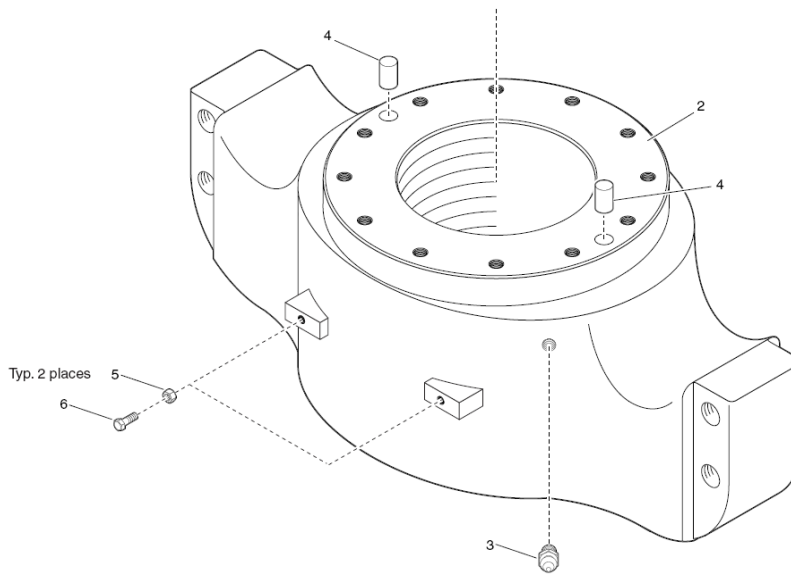

Figure 1 – Bolts added to load collar for stabilization
In order to provide better stabilization of the EMI 400 load collar (PN 13392), two bolts have been added to the load collar to provide a bearing point against the upper grabber leg. Figure 1 below shows the location of these bolts. The modification includes the addition of two 1/2" UNC x 1-1/2" deep threaded holes to the bosses on the load collar. Two 1/2" x 1-1/2" cap screws (PN 0983) and two 1/2" jam nuts (PN 3157), shown as items 5 and 6 below, are then used to provide a bearing point. Please refer to drawing 30001081 rev. 9 for complete specifications. This change is documented fully by ECN 084-0005.
2. Install bolts and jamb nuts as per illustration 13392 (and shown above in Figure 1) using Loctite 243.